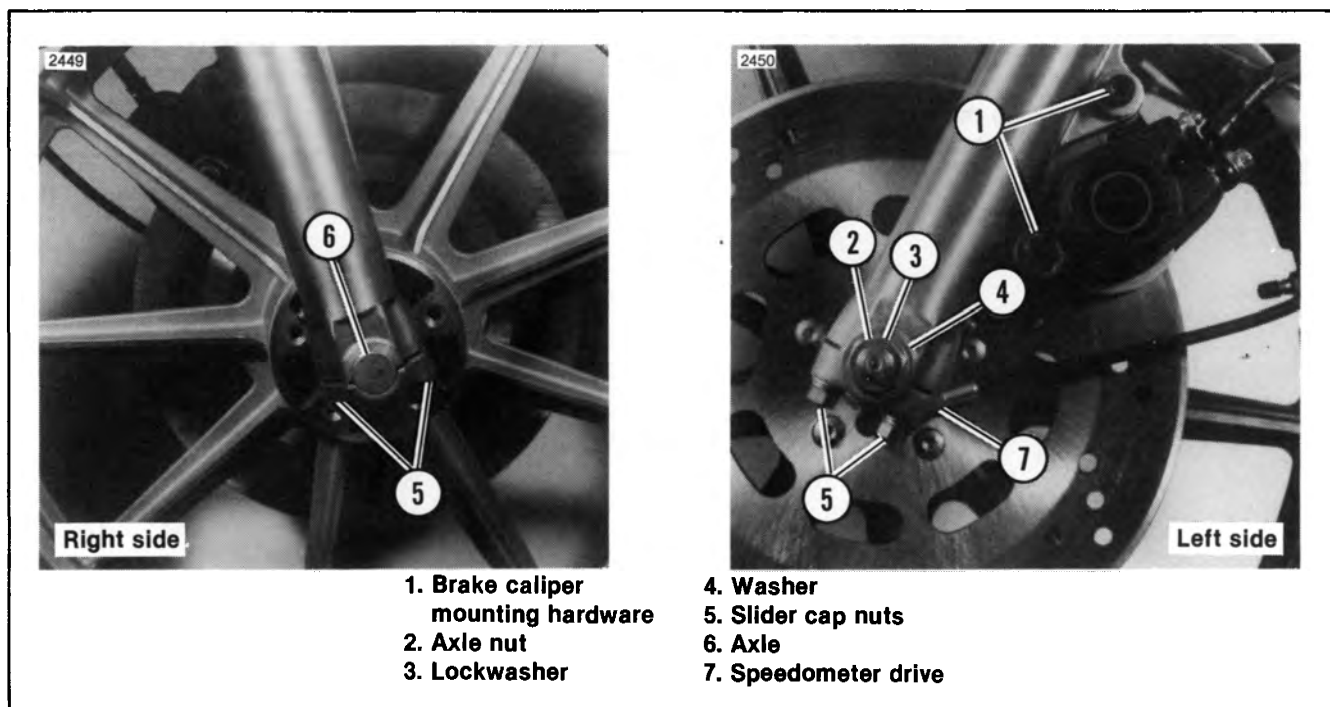

Figure 2-4. Front Wheel Mounting — 1984-1987 FXR Models Except 1987 FXRSE, FXLR
(Figure 2-4)**
2. See Figure 2-4. Install axle through right fork leg, wheel, speedometer drive (7) and left fork leg. Secure the axle with the washer (4), lockwasher (3) and axle nut (2). Tighten the axle nut 50 ft-lbs torque. Tighten the slider cap nuts (5) to 11 ft-lbs torque. Check end play before mounting the brake calipers.